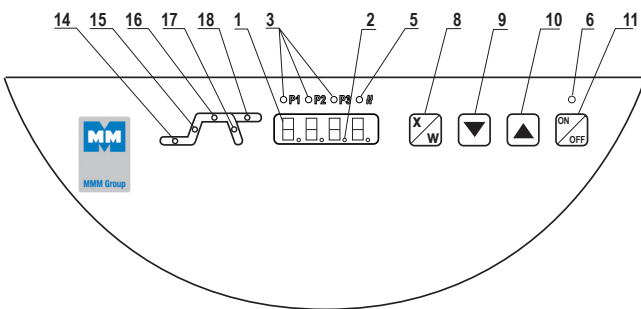

Fig. 4
**Any assembly or disassembly may be done only when disconnected from the mains! After switching the unit off with the key (key 11, fig. 4) the unit comes only to a stand-by mode, however, it is not disconnected from the mains!**
2. Press the key **X/W**, indicator lights 15, 16 (Fig.4) start to blink, by pressing the keys ▼▲ set the required temperature in °C on the display. The lowest temperature interval, which can be set and displayed with EC, DC, VC is 1 °C; with IC, ICV it is 0,1 °C. The indicator lights of the segments blink permanently.
3. By pressing the key **X/W** change over to the setting of time-delayed switching-off, by pressing the keys ▼▲ set the required value in hours and minutes from 0 to 99 hrs and 59 min on the display, thereby the indicator lights 16, 17 (Fig.4) blink. The symbol --- corresponds to the timely unlimited exposure.
5. By pressing the key **X/W** change over to the stage of setting the time-delayed starting and by pressing the keys ▼▲ set the required value in minutes from 0 up to 99 hrs 59 min, the indicator light 14 (Fig.4) blinks.
Connect the printer to the device by means of a cable with serial connector (RS-232C). Connect one end of the cable to the printer socket (see Fig. 4) and the other one to the connector in the rear part of the printer. Connect the printer to the electric power mains by means of an adapter. Some types require the switch on the right side of the printer to be switched on. The indicators POWER and SEL light up. The printer is in the on-line mode. Paper is fed by pressing the LF button (in the on-line mode only, i.e. after the SEL button pressing – the SEL indicator turns off. To renew the on-line mode, the SEL button must be pressed – the SEL indicator lights up). The printer can print in the on-line mode only!